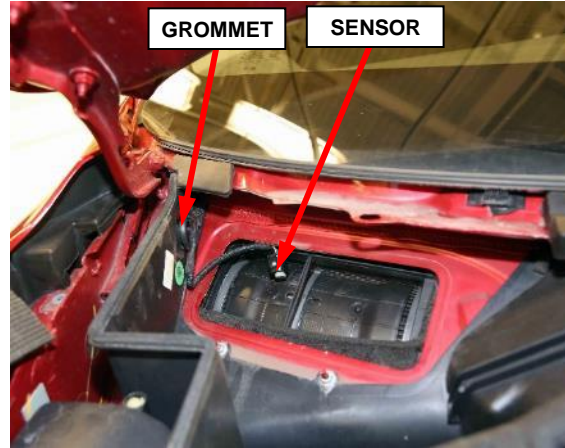

Figure 31 – Outside Air Manifold
36. If equipped, push the air quality sensor electrical connector and grommet through the hole in the outside air manifold (Figure 31).
90. If equipped, install the air quality sensor electrical connector and grommet into the hole in the outside air manifold (Figure 31).